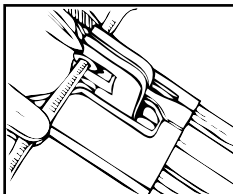

Figure 12
12. **Prior to ejecting the joined rings, gently squeeze the end of the apposed jaws with a small hemostat** (See Figure 12) **to ensure ring approximation and a tight friction fit.** Turn the Anastomotic Instrument knob further clockwise to eject the joined rings.